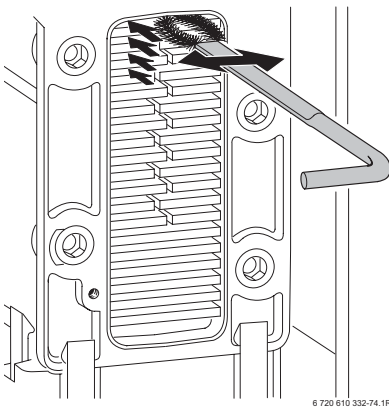

Fig. 55
- ▶ Clean the heat exchanger from top to bottom using the brush. Refer to fig. 55.